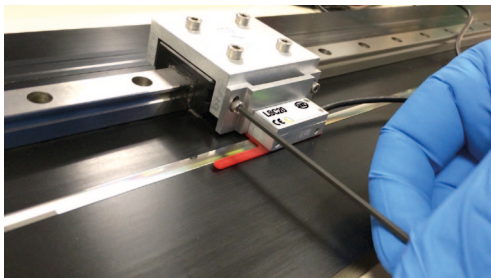

Fig. 5:
3. Tighten the sensor in the Z-axis Fig. 5.